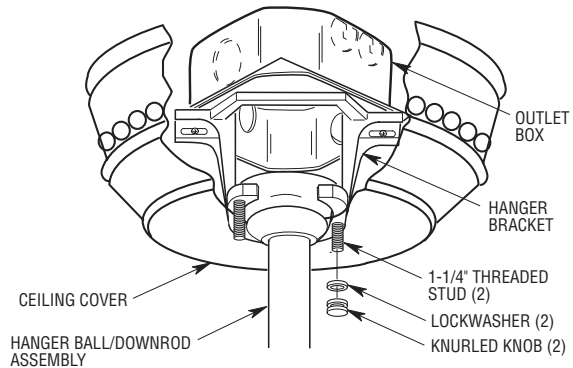

Figure 17
- 7. Lift the ceiling cover up to the threaded studs and turn until studs protrude through the holes in the ceiling cover (Figure 17).